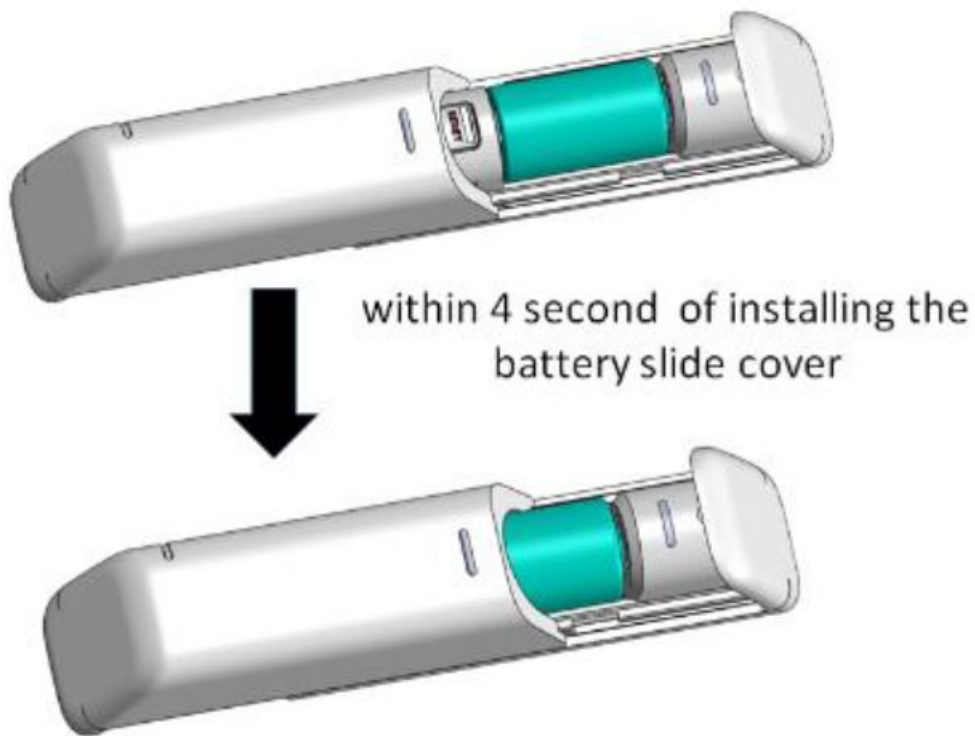

Figure 5
5. Once the battery is installed slide the battery cover such that the reset button is no longer exposed but such that the cover is not completely closed, Figure 5.